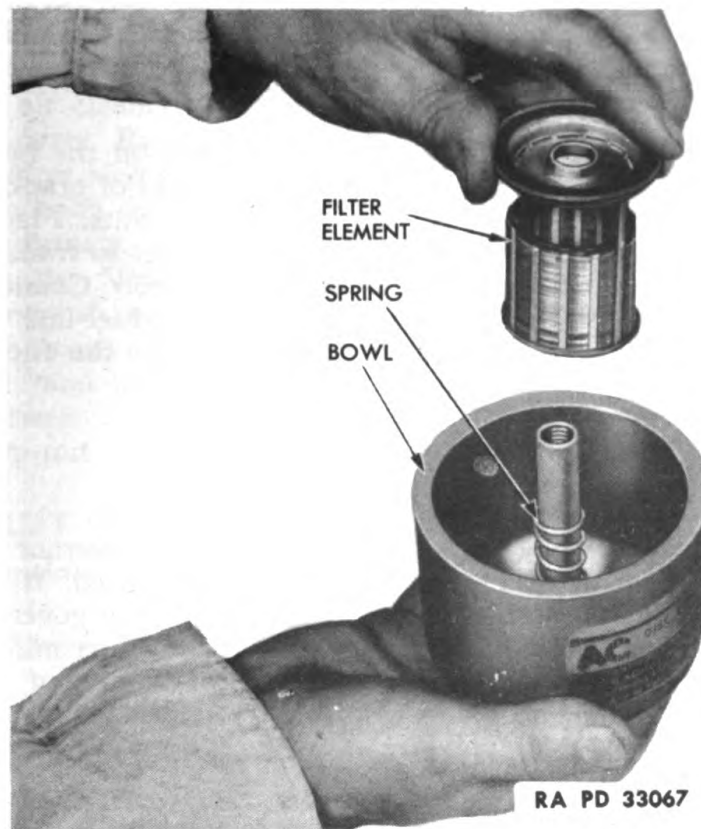

Figure 42—Fuel Filter Element Replacement
b. **Maintenance** (fig. 42). Make sure that all connections are kept tight to prevent fuel or air leaks. Drain and flush out the filter bowl regularly by closing the shut-off cock and removing the drain plug. After draining, flush bowl by opening valve and admitting a small amount of fuel. Install the drain plug and open shut-off valve. To clean the filter element close the shut-off valve, remove the cover bolt, bowl, and filter element. Wash all parts of the filter in dry-cleaning solvent. Slush the filter element back and forth in clean gasoline to remove all particles of dirt. Assemble the filter element, bowl, and cover bolt, using new gaskets. Open the shut-off valve.